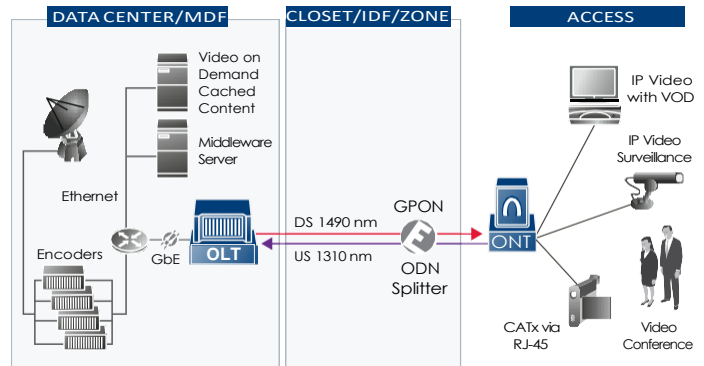

Figure 4: IP video over Optical LAN architecture
**Video** — Since Passive Optical LAN is a standard transport system, IP video content can be deployed with little effort. As an example, small enterprises are able to encode off-air analog and digital channels, and deliver them in both standard definition and high-definition quality [Figure 4]. These video networks are built to support local cached content for video on demand (voD) and other interactive services. There are even options for local content insertion (e.g., facility news, company news and training). This is accomplished over the Passive Optical LAN equipment, since the video is once again transported in an IP/Ethernet format. As the Passive Optical LAN system leverages Internet Group Management Protocol (IGMP) multicast delivery mechanisms, it is a highly efficient means to deliver video on the network. IGMP multicasting takes place across the OLT and ONTs so as to ensure that only a single copy of the unique IP video stream is efficiently sent across the network, optimizing bandwidth. This same architecture can support enterprise-centric IP video, such as video conferencing (vTC), telepresence conferencing, telepresence robots and video surveillance.